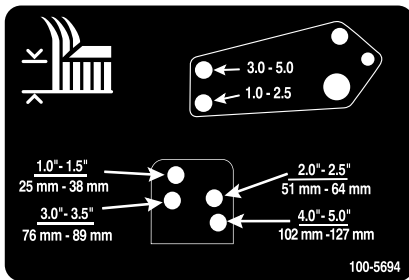

Figure 29
- Align the damper-link holes with the selected height-of-cut bracket holes in the mower-deck frame, insert the clevis pins, and install the hairpin cotters (Figure 29).